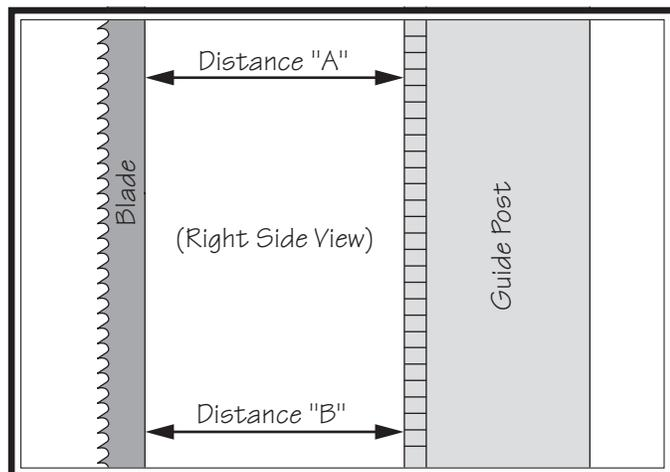

Figure 99. Example of measuring distance between guide post rack and blade.
4. Measure distance "A" between upper front face of guide post rack and back of blade (see **Figure 99**).
5. Measure distance "B" between bottom front face of guide post rack and back of blade (see **Figure 99**).